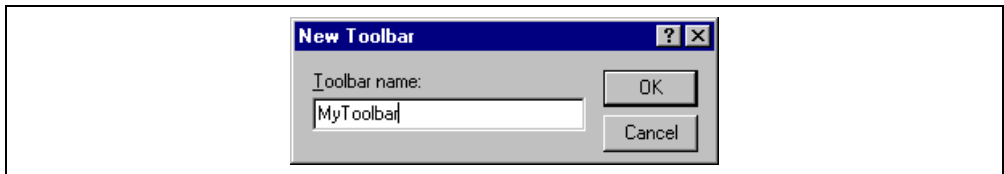

Figure 6.2: New Toolbar Dialog
2. Click the “New...” button. The dialog shown in * MERGEFORMAT figure 6.2 will be displayed.